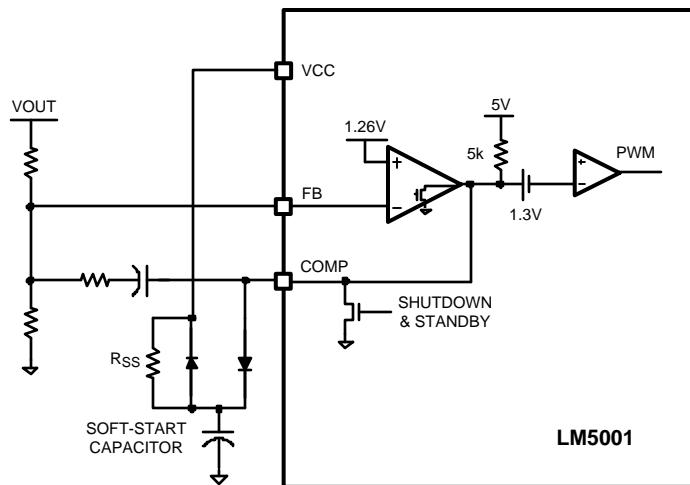

Figure 17. Soft-Start
Internal Thermal Shutdown circuitry is provided to protect the IC in the event the maximum junction temperature is exceeded. When the 165°C junction temperature threshold is reached, the regulator is forced into a low power standby state, disabling all functions except the VCC regulator. Thermal hysteresis allows the IC to cool down before it is re-enabled. Note that since the VCC regulator remains functional during this period, the soft-start circuit shown in Figure 17 should be augmented if soft-start from Thermal Shutdown state is required.
Soft-start (SS) can be implemented with an external capacitor connected to COMP through a diode as shown in Figure 17. The COMP discharge MOSFET conducts during Shutdown and Standby modes to keep the COMP voltage below the PWM offset (1.3 V), which inhibits PWM pulses. The error amplifier attempts to raise the COMP voltage after the EN pin exceeds the 1.26-V standby threshold. Because the error amplifier output can only sink current, the internal COMP pull-up resistor (~5 kΩ) supplies the charging current to the SS capacitor. The SS capacitor causes the COMP voltage to gradually increase, until the output voltage achieves regulation and FB assumes control of the COMP and the PWM duty cycle. The SS capacitor continues charging through a large resistance,  $R_{SS}$ , preventing the SS circuit from interfering with the normal error amplifier function. During shutdown, the VCC diode discharges the SS capacitor.